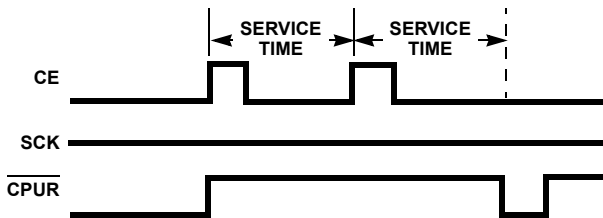

FIGURE 11. WATCHDOG OPERATION WAVEFORMS
3. Watchdog Reset (actually a non-transfer) Figure 11.
**Watchdog Reset** (See Figure 11)